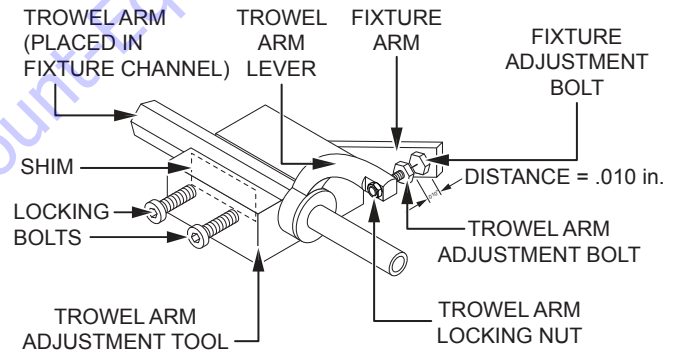

Figure 67. Trowel Arm Adjustment
1. Unscrew the locking bolts on the adjustment tool and place a trowel arm (with lever attached) into the fixture channel as shown in Figure 67.
3. A thin shim (Figure 67) may be required to cover the blade holes on the trowel arm. Be sure to align the trowel arm adjustment bolt with the fixture adjustment bolt.
4. Tighten the locking bolts (Figure 67) to secure the trowel arm in place.
5. Adjust the bolt distance shown in Figure 67 to match one of the arms. The other arms will be adjusted to match this distance.